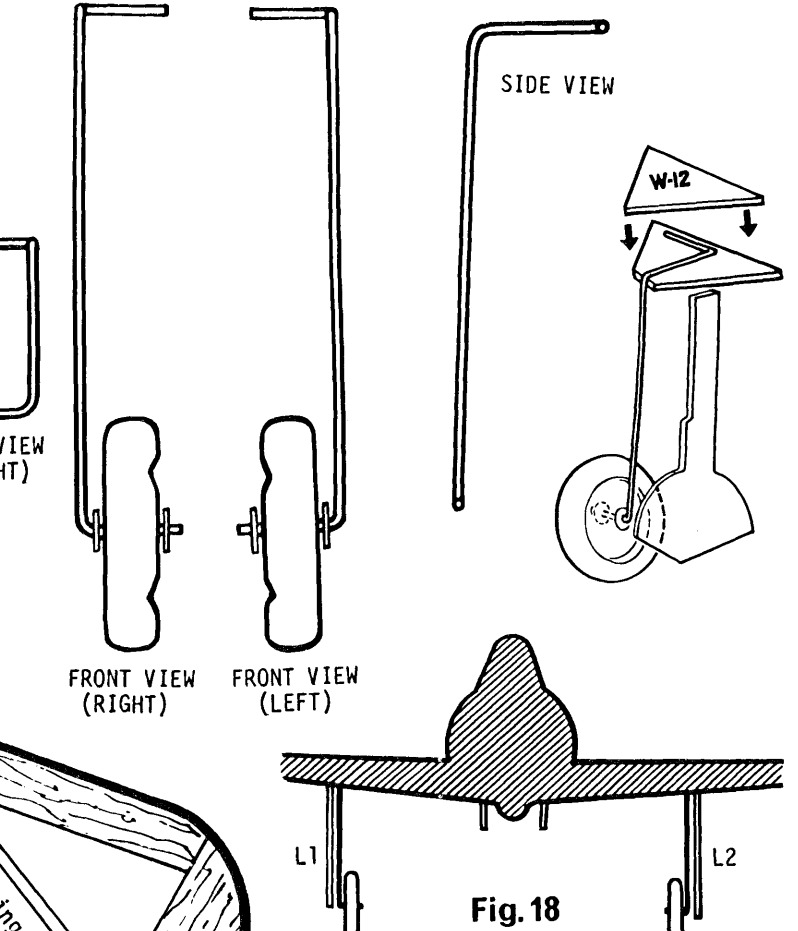

Fig. 18
STEP 17. Glue landing gear wire between two W 12 pieces (Fig. 17). Bend wire as indicated. Glue L 1 and L 2 into position (Fig. 18).